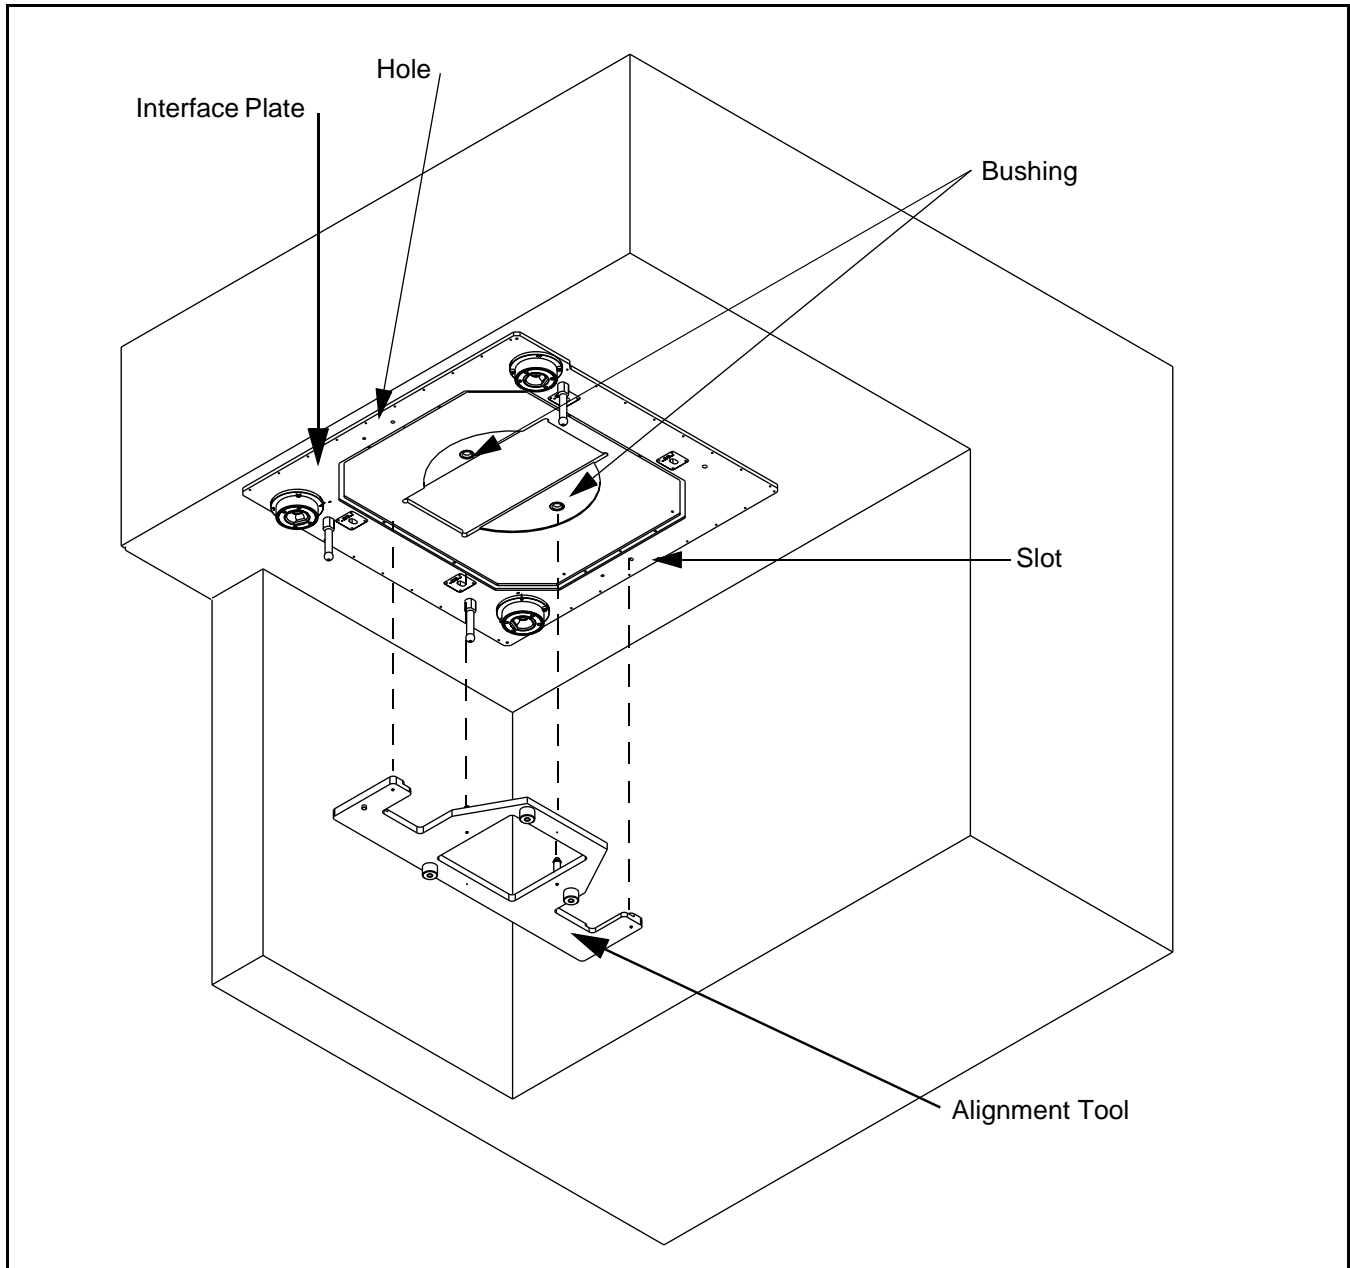

Figure 10 Interface Assembly Plate Position (Rear Docking Shown)
- 7) Position the alignment tool under the handler so that it captures a hole and slot in the interface assembly plate and the two bushings in the handler dock plate. See Figure 10.